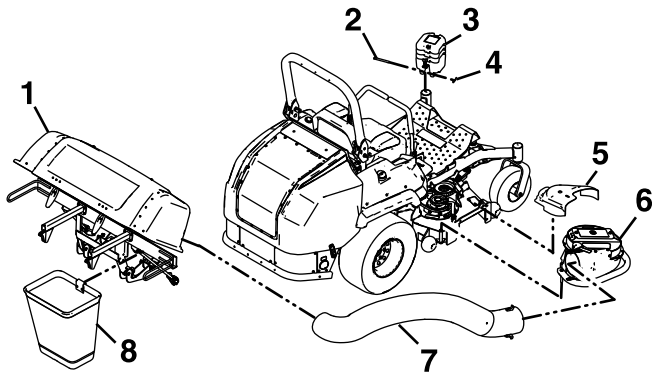

Figure 25
6. Remove the discharge tube by releasing the latches at the blower. Slide the tube off the blower outlet and remove the upper end from the hopper (Figure 25).